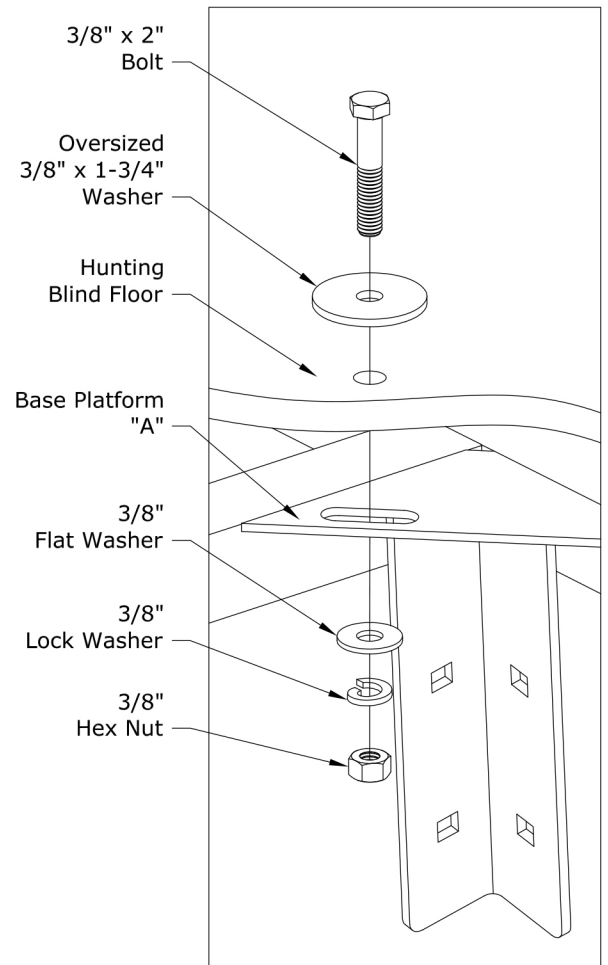

Figure 3.1
STEP 3: Position your Redneck Hunting Blind on the Base Platform. Center the blind so that the door side is parallel with the porch. NOTE: Make sure the blind is not resting on the treaded portion of the front channel. Install the (4) 3/8" x 2" bolts, (4) 3/8" x 1-3/4" washers from inside the blind. Secure to the base platform with (4) 3/8" flat washers, (4) 3/8" lock washers, (4) 3/8" hex nuts as shown in Figure 3.1. DO NOT OVER TIGHTEN.